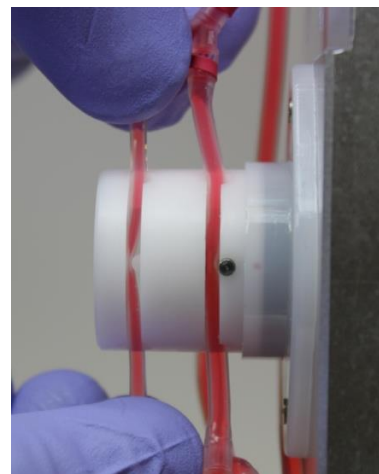

Figure 11: Mounting order of Perfusion Set tubes. Start with the rear right side.
- The setup at this point is shown in Figure 11